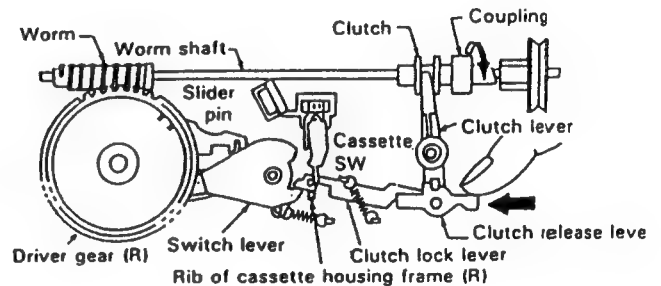

Figure 1-16.
1. Shift the slider by turning the coupling in the arrow direction (clockwise) until the slider pin is at the bottom of the slider groove as shown in the Figure 1-16. (The loading mode)
**Note:** Note that the slider is equipped with a lock mechanism. Unlock the locks on cassette housing frames (L) and (R) side before shifting the slider.
2. When the position is set as shown in the Figure 1-16, push the clutch release lever in the direction of the arrow by hand until the clutch lock lever becomes tightly locked by the rib of cassette housing frame (R).